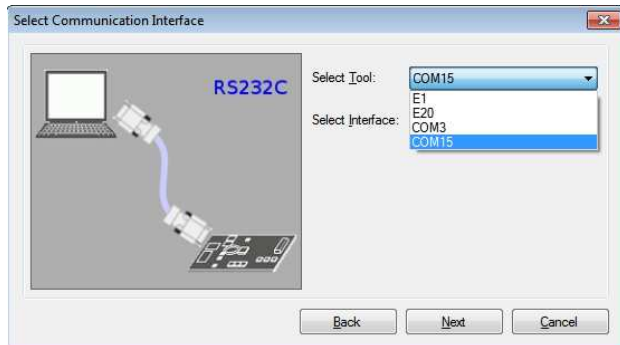

Figure 17. Select Com Port
4. Select assigned COM port number for development board in **Select Tool**: drop-down menu (See Figure 17), and click **Next**.